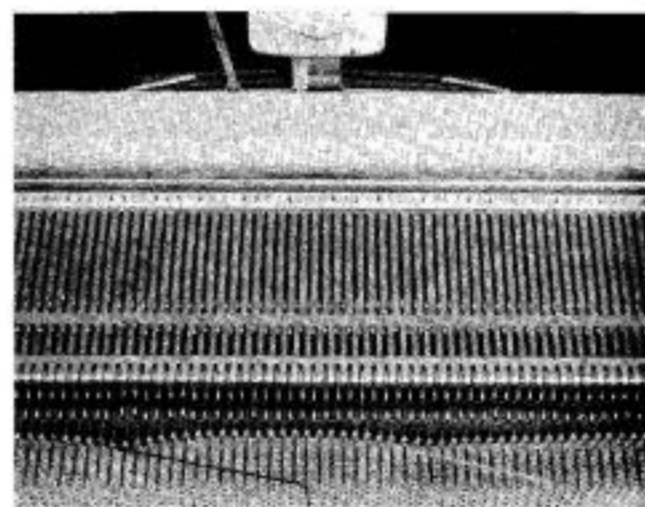
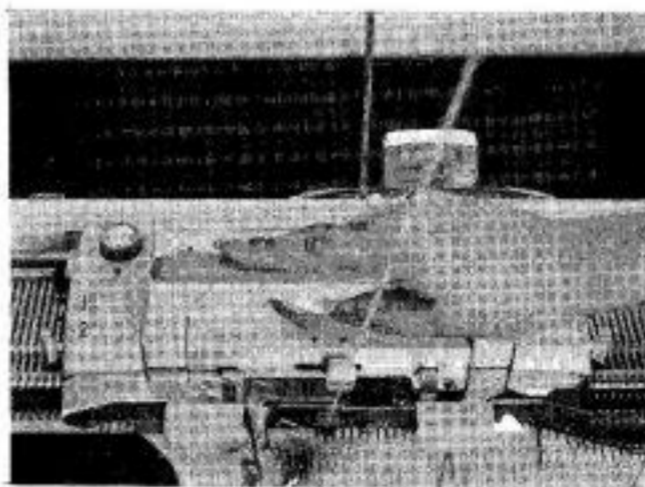

Fig. 57
Fig. 58
**2nd row** Carriage on left, using the Sub-Knitter as described for the first row bring the needles forward into position "E". Slide the weight down the contrasting colour wool and lay the wool into the required needle hooks from left to right (Fig. 57). Pull fabric forward to close the needle latches. Knit this row by moving carriage across to the right. (Fig. 58)